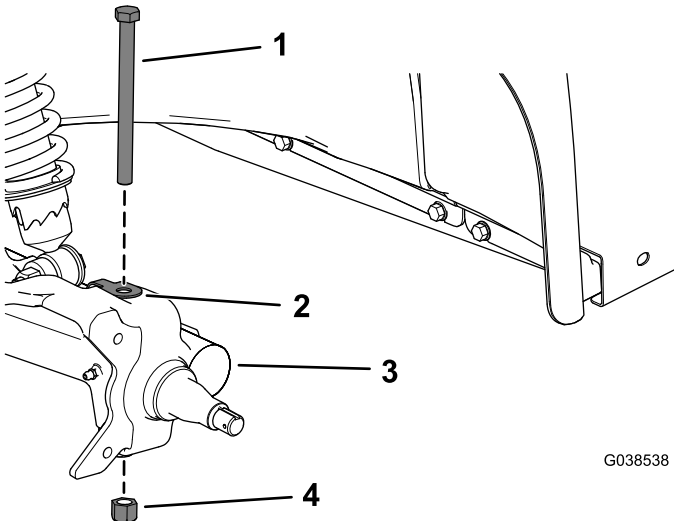

Figure 9
9. Remove the hex-head bolt (1/2 x 6 inches), clip, and locknut (1/2 inch) from the control arm, and remove the spindle (Figure 9).
2. Install the spindle assembly to the control arm using the hex-head bolt (1/2 x 6 inches), clip, and locknut (1/2 inch) as shown in Figure 9.